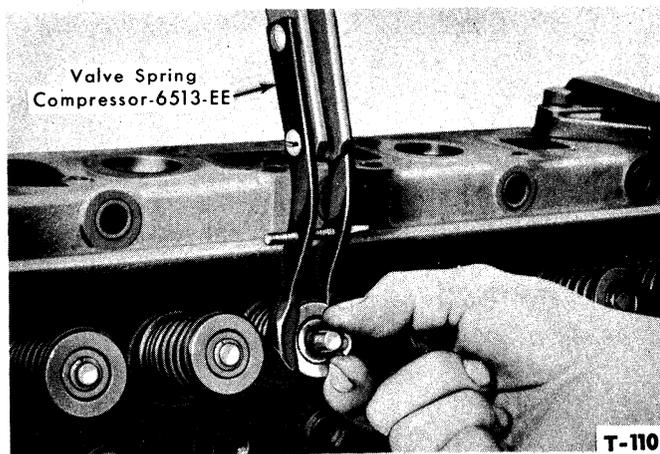
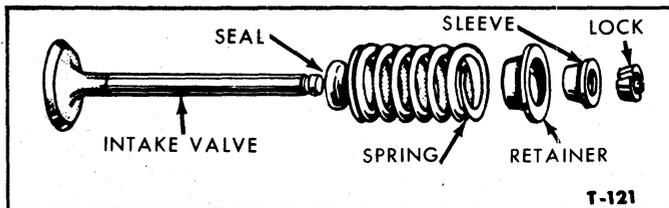
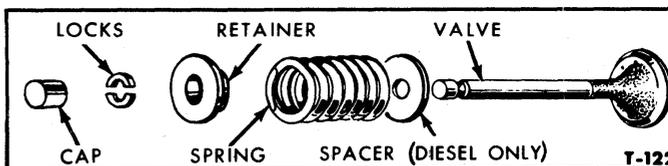

Figure 12—Removing Valve Spring Retainer Locks
Figure 26—Intake Valve Assembly
Figure 27—Exhaust Valve Assembly
2. Prior to removing the valves, clean all carbon deposits from the combustion chambers. Position Valve Spring Compressor 6513-EE over the valve and spring as shown in Figure 12 and compress the valve spring. Remove the two valve spring retainer locks, sleeve, retainer, spring and
7. Install the spring retainer sleeve as shown in Figure 26 on the intake valves. Install the spring retainer as shown in Figure 27, on the exhaust valves. Compress the spring with Valve Spring Compressor 6513-EE and install the valve locks, Figure 12.